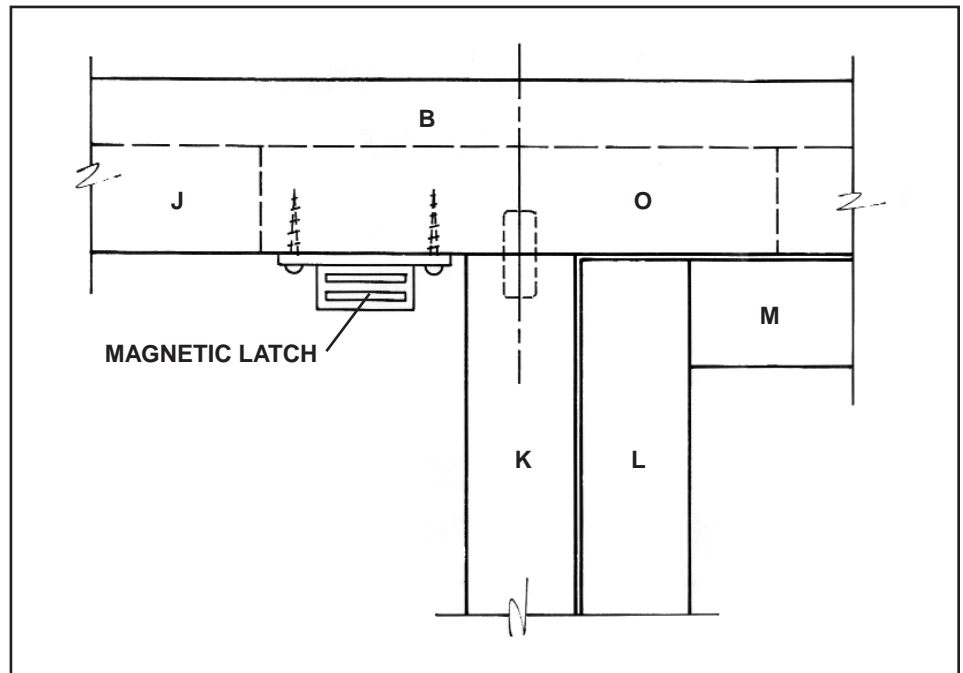

Figure 6
5. Drill a 3/8" hole in boards J and K. Refer to Figure 6.
9. Glue two O boards to the inside face of board J. Refer to Figure 6 and isometric.